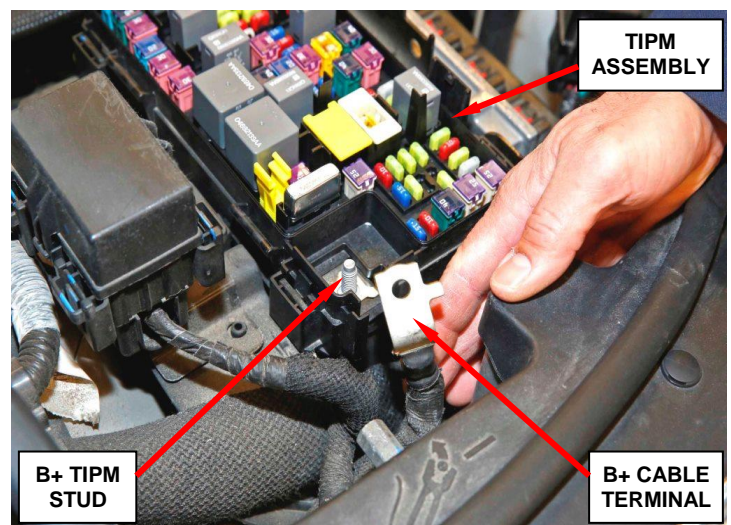

Figure 3 – B+ Cable Terminal
5. Carefully separate the B+ cable terminal from the B+ TIPM stud (Figure 3).